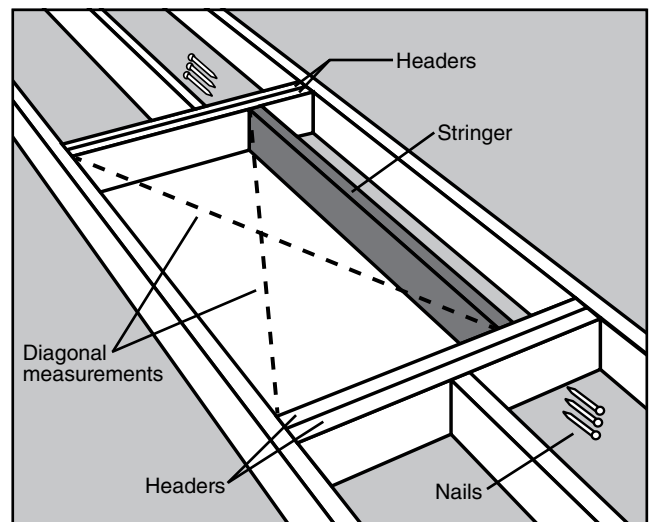

FIGURE 18
- STEP 4.** Position the stringer(s) along the unframed side(s) of your location (See Figure 18). Check that the inside dimensions of the frame are 22-1/2" x 54" (W2208, W2210 and WU2210) or 25" x 54" (W2508 and W2510).
- STEP 5.** To attach the stringer(s) to the headers, use nails that are long enough to go through both headers and into the stringer at least one inch. Square the stringer(s) to the headers at one end and drive (3) 16d nails through the headers and into the stringer. Check for squareness, then nail the other end. Check the rough opening for squareness by measuring across the diagonals. **The two measurements should be within 1/8" to be considered square** (See Figure 18).